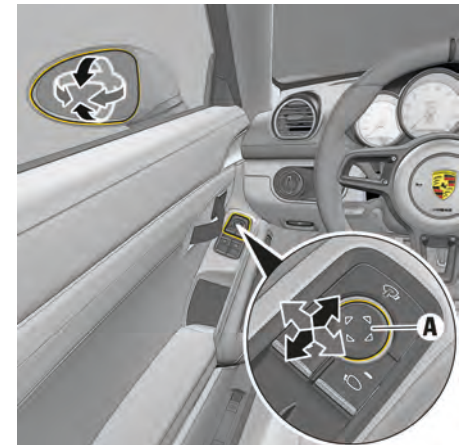

Fig. 77: Setting door mirrors
1. Press button **A** (Fig. 77) to select the driver's side or press button **B** (Fig. 77) to select the passenger's side.
2. Pressing adjustment button **C** (Fig. 77) to move the door mirror glass to the desired position.